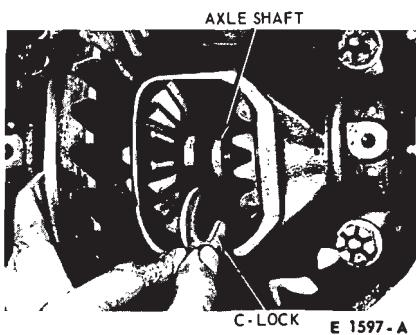

FIG. 4—Removal and Installation of C-locks and Axle Shaft
8. Push the axle shaft(s) inward toward the center of the axle housing. Remove the C-lock(s) (Fig. 4) from the inner end of the axle(s). Remove the axle shaft(s) from the housing. Extreme care must be used to avoid contact of the axle shaft seal lip with any portion of the axle shaft except the seal journal.
7. Install the axle shaft C-lock(s) on the inner end of the shaft(s) (Fig. 4) and push the shaft(s) outward so that the shaft locks seat in the counterbores of the differential side gear(s).
11. Push the axle shaft(s) inward toward the center of the axle housing. Remove the C-locks from the inner ends of the axles (Fig. 4). Remove the axle shafts from the housing. Extreme care must be used to avoid contacting the axle shaft seal lip with any portion of the axle shaft other than the seal journal.